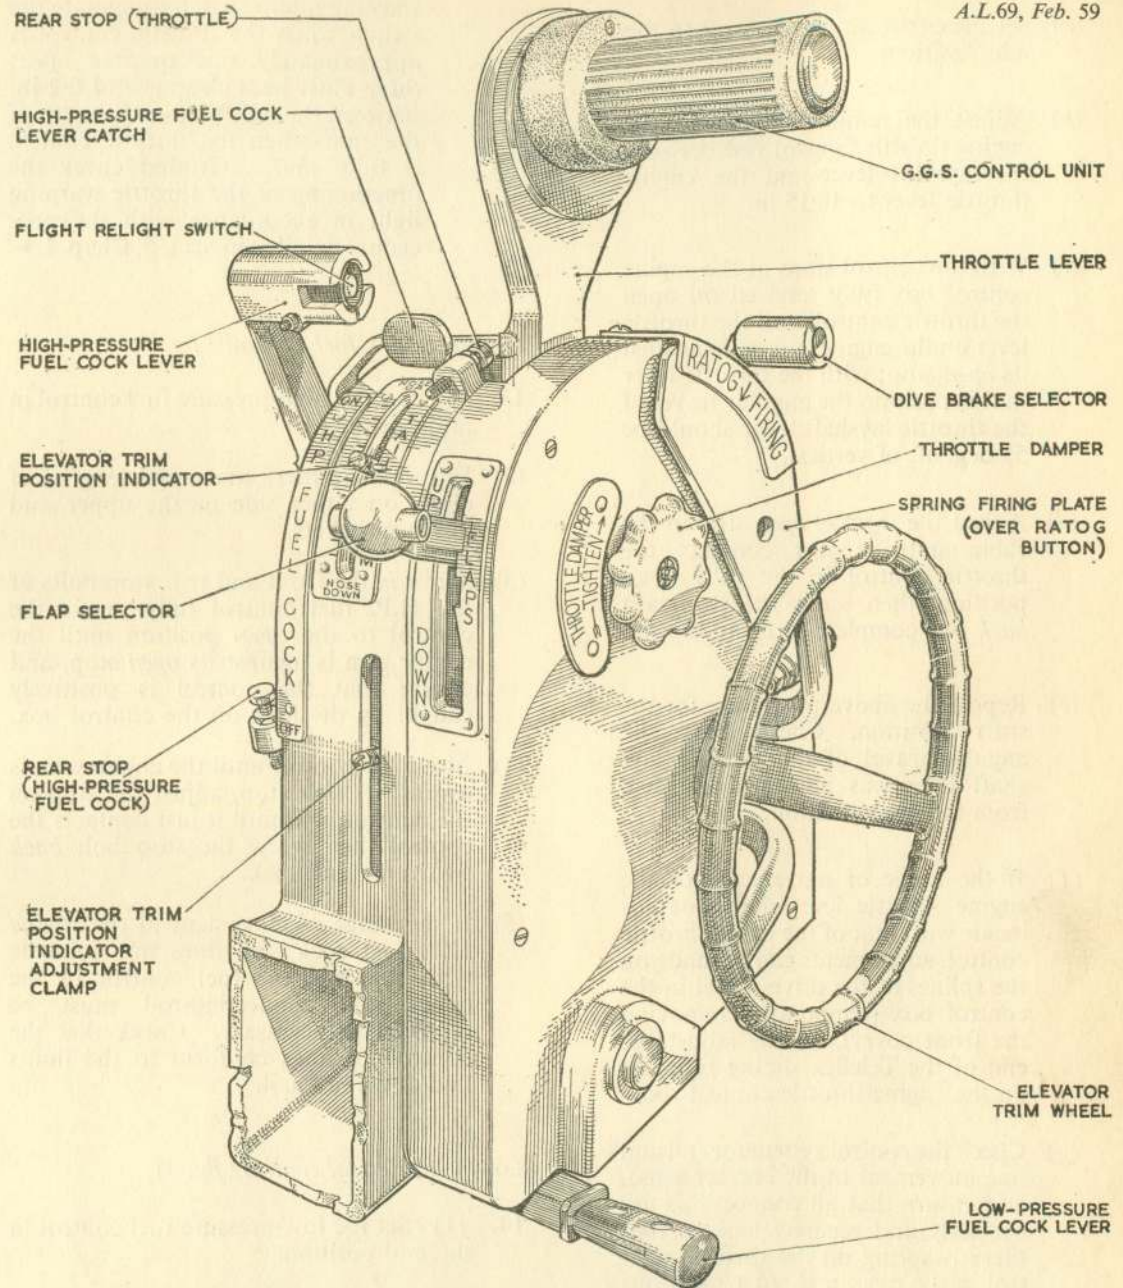

Fig. 5. Engine control box
7. The throttle and high-pressure and low-pressure fuel cocks constitute the main controls, and their respective levers are located in the engine control box mounted on the port side of the cabin (fig. 5). Movement of the levers is transmitted through Teleflex cables, running in rigid conduits, to Teleflex boxes mounted on the aft face of No. 4 bulkhead. The throttle (pre-mod. N.629) and low-pressure fuel cock controls are each connected to the Teleflex boxes by two cables, and the high-pressure fuel cock by a single cable. The throttle and low-pressure fuel cock cables are adjustable at the turnbuckles which are fitted between bulkhead No. 2 and 3. The drive from the Teleflex boxes is transferred by a system of parallel transverse layshafts, connected chains and tie-rods. The low-pressure fuel cock layshaft, positioned on the lower aft face of No. 4 bulkhead, is connected